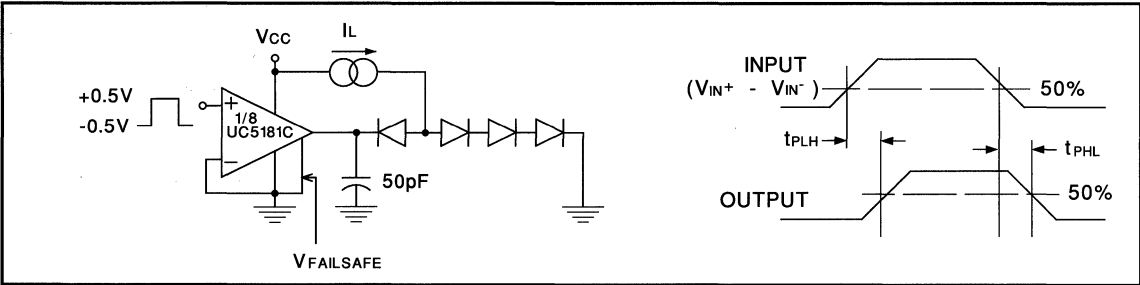

Figure 2. AC Test Circuit
**AC ELECTRICAL CHARACTERISTICS:**  $V_{CC} = 5\text{V} \pm 5\%$ ,  $T_A = 0^\circ\text{C}$  to  $+70^\circ\text{C}$ , Figure 2  $T_A = T_J$ .